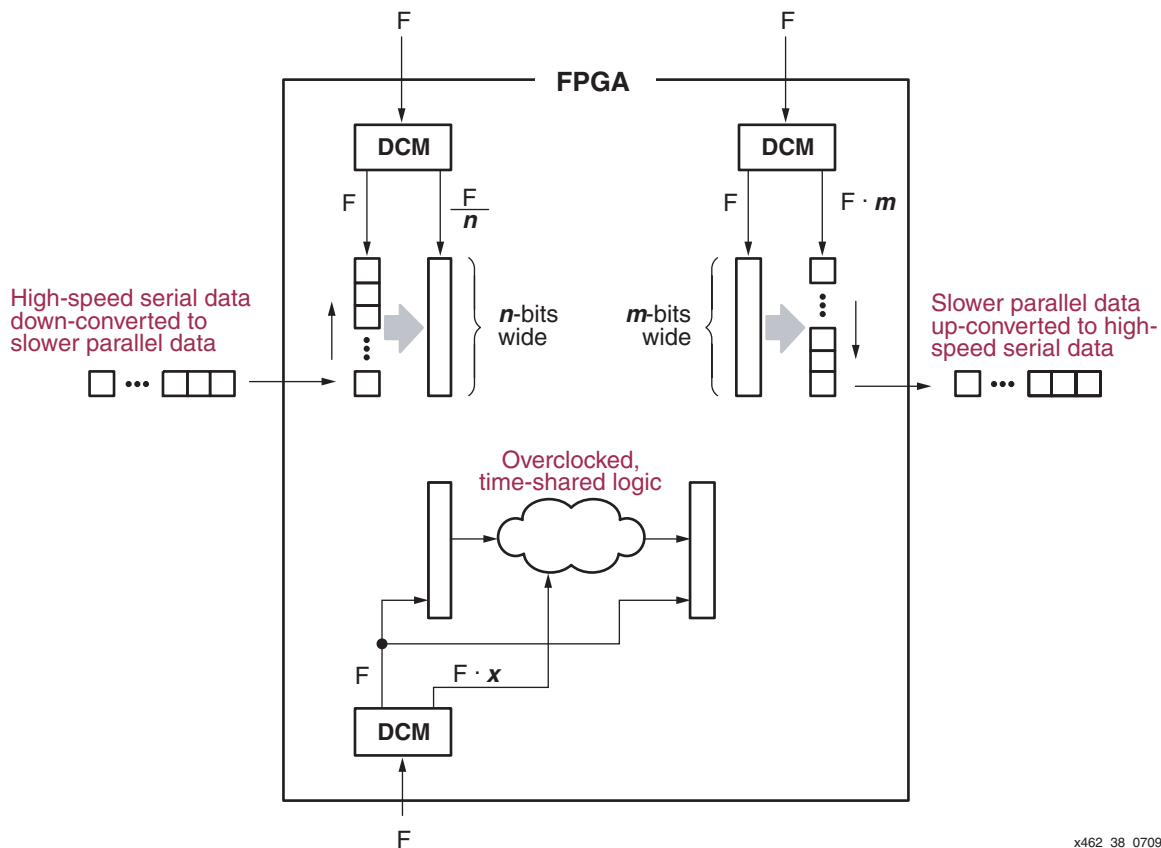

Figure 3-38: **Common Applications of Frequency Synthesis**
- Dividing a high-speed serial data clock to process data in parallel within the FPGA, as shown in Figure 3-38.
- Multiplying a parallel data clock before converting to a high-speed serial data format, also shown in Figure 3-38.